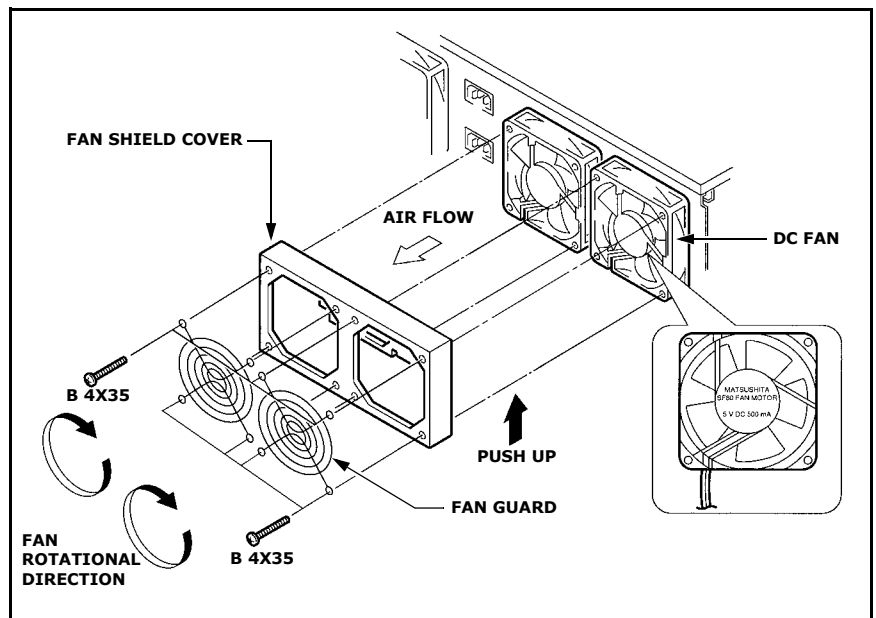

Figure 2
3. Install the DC fan, fan shield cover, and fan guards as shown in Figure 2.